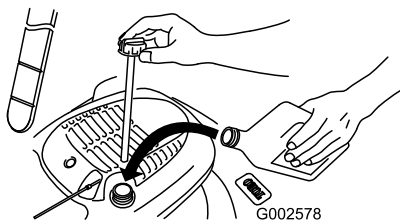

Figure 31
4. **Slowly** pour oil into the oil fill tube until the oil level reaches the **Full** line on the dipstick (Figure 31). **Do not overfill.** (Max. fill: 20 oz., type: SAE 30W detergent oil with an API service classification of SF, SG, SH, SJ, SL, or higher.)